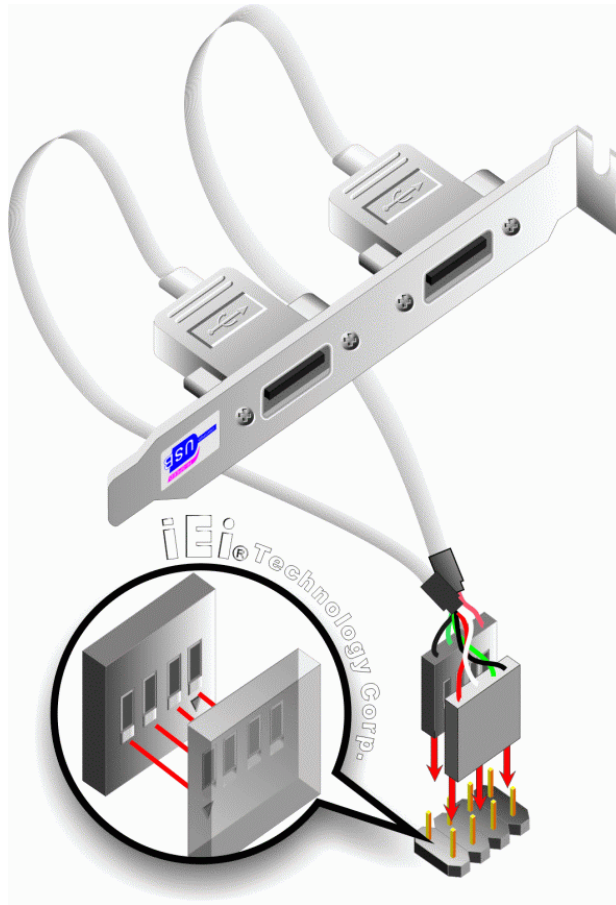

Figure 5-15: Dual USB Cable Connection
Step 3: Insert the cable connectors Once the cable connectors are properly aligned with the USB connectors on the PCIE-9450, connect the cable connectors to the onboard connectors. See **Figure 5-15**.